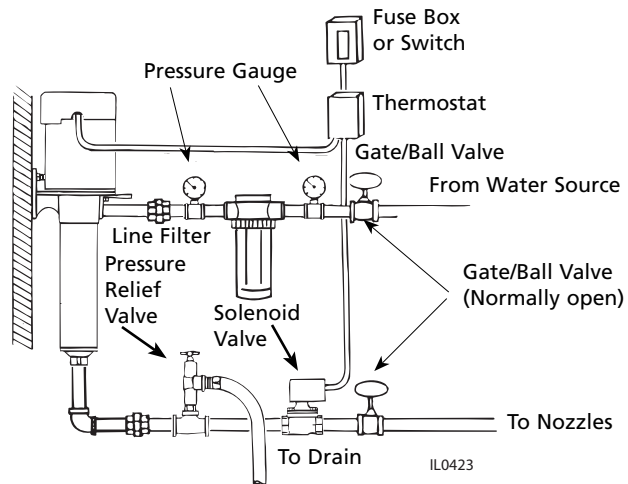

Figure 7
- Whenever dirt, sand or debris is present in the supply water, install a strainer or filter on the inlet side of the pump (See Figure 7).